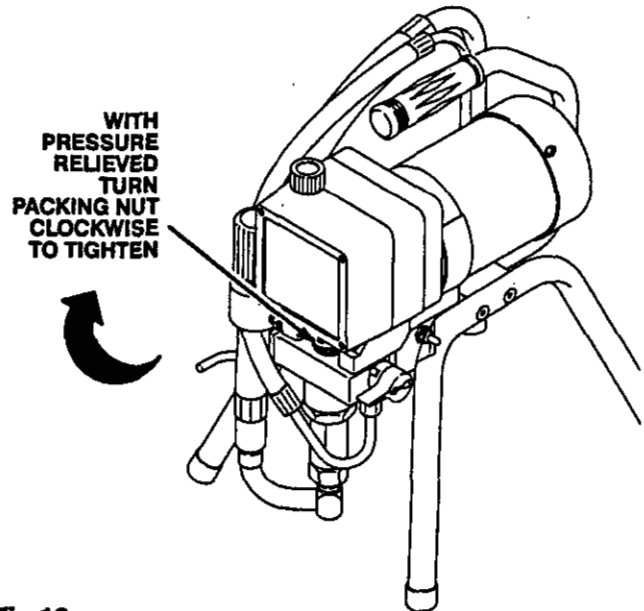

Fig 10
2. **Tighten the packing nut/wet-cup just enough to stop leakage.** Over-tightening causes binding and excessive packing wear. Use a round punch or brass rod and a light hammer to adjust the nut. See Fig 10.
4. Open the pressure drain valve. See Fig 10.